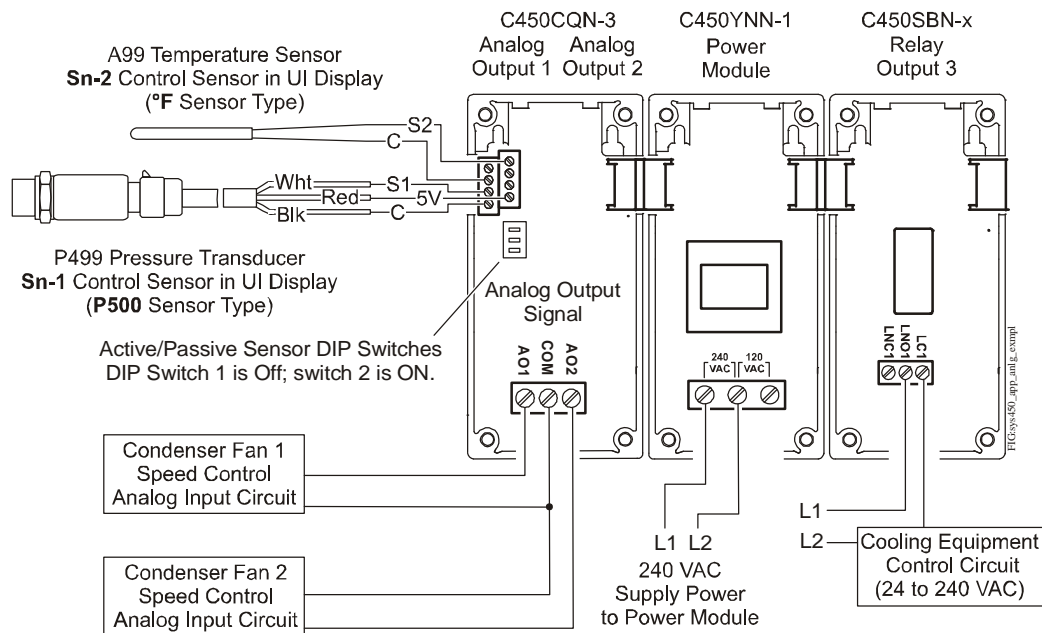
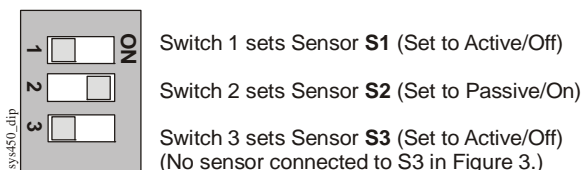

Figure 3: Example System 450 Heat/Cool System with Condenser Fan Speed Control
Figure 5: Active/Passive Sensor DIP Switch Block (Set up for Example in Figure 3)
- Mount the modules upright and plugged together in a horizontal row where possible (Figure 3). DIN rail mounting is highly recommended.
3. Clip the remaining power and/or expansion modules to the right of the control module on to the DIN rail and plug the 6-pin module connectors together (Figure 3).
A System 450 control system consists of one control module, one to three control sensor inputs, and one to ten outputs that provide On/Off control and/or analog control. Figure 3 shows an example System 450 module assembly with two sensors and three outputs (two analog outputs and one relay output).
Before putting your control system into operation, you must set up each sensor in the system as either passive or active by positioning the associated switch (On or Off) on the DIP switch block located below the sensor terminal block. See Figure 3.
Temperature sensors are passive (2-wire) sensors and corresponding switches must be set to ON. Humidity and pressure transducers are active (3-wire) sensors and corresponding switches must be set to Off. See Figure 5 for the switch settings for the System 450 example shown in Figure 3.